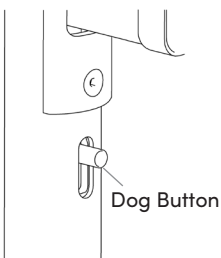

Figure 1-2
- The Panic Device Assembly is un-dogged when the Dog Button is in the down position. Refer to Figure 1-2.